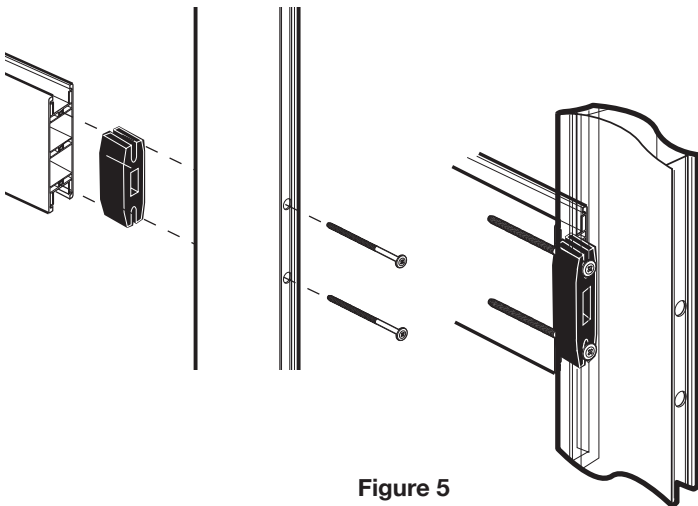

Figure 5
Place 2 of the 4" screws into the pre-drilled holes in the stile, making sure they are fully inserted. Snap a center rail stopper (F) into the channel between the 2 screw shafts. Once in place, snap each screw shaft into the outer channels of the stopper. Place the Center rail (E) against the screws, lining up the holes in the extrusion. Once in place, tighten the screws until stile and rail are flush and secure. Do not overtighten See Figure 5.